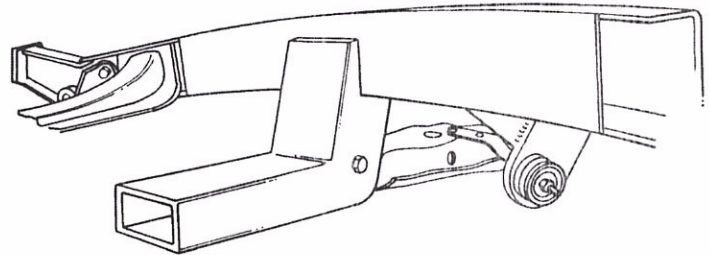

Figure 7
12. Install the strut rod onto the control arm. Now, assemble onto the strut rod the large rubber bushings, including the cupped washers, and the strut mount plate. Be certain to fully tighten the nut on the strut rod to its' fully seated position. See Figure 7. There are two rubber bushing sets available; the standard replacement and the improved set. We recommend the improved set, as it provides more stability to the front suspension. The Pinto and Mustang strut rods are different lengths. We recommend the use of Pinto strut rods, as they are bent less than the Mustang strut rods. You will find that with either strut rod the strut rod plate does not line up with the bottom of the frame rail. The strut rod must be heated in the elbow area and bent outward. The rod is bent outward until the strut mounting plate lines up to the frame rail. You will find that because the Pinto strut rod is initially bent less and requires much less bending. The strut rod will act as an alignment fixture while you tack weld the mount plate in place, then tack weld the gusset in place. Remove the strut rod, bushings, and arm, and finish welding to the frame and each other.